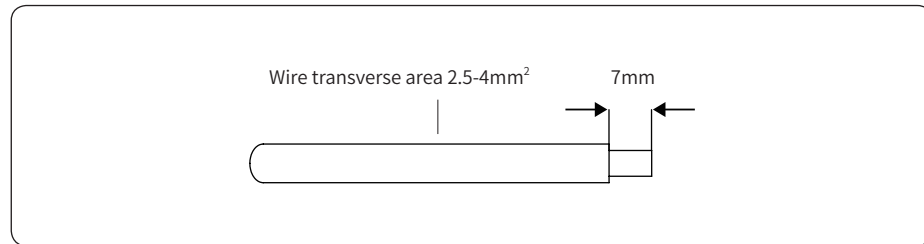

Figure 4-12
2) Peel off the DC cable insulation sleeve for 7 mm, as shown in Figure 4-12: